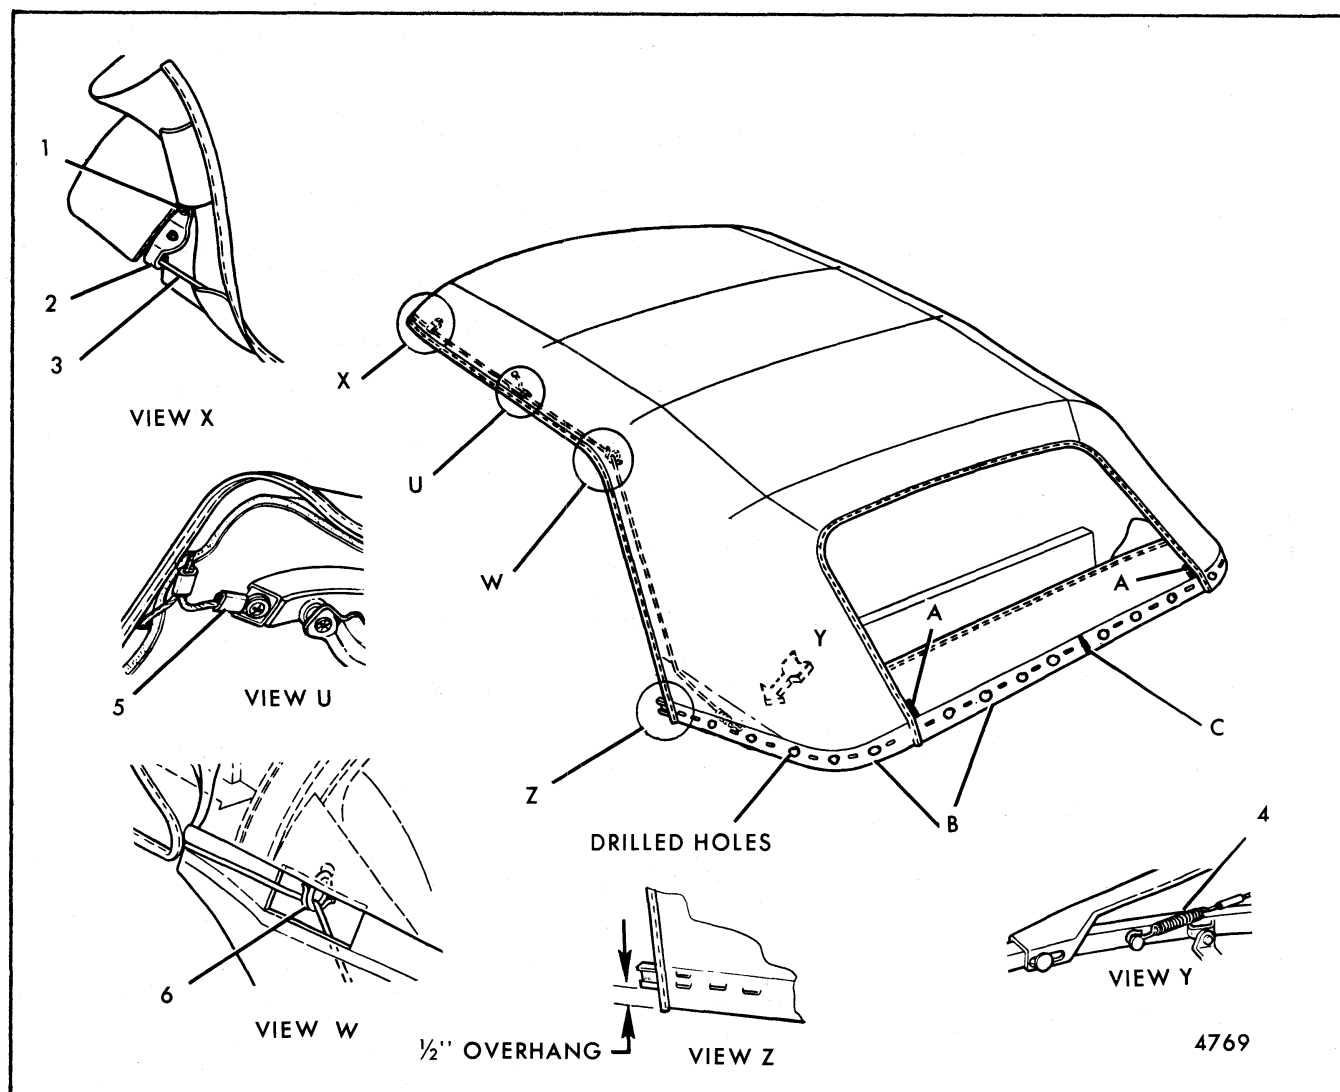
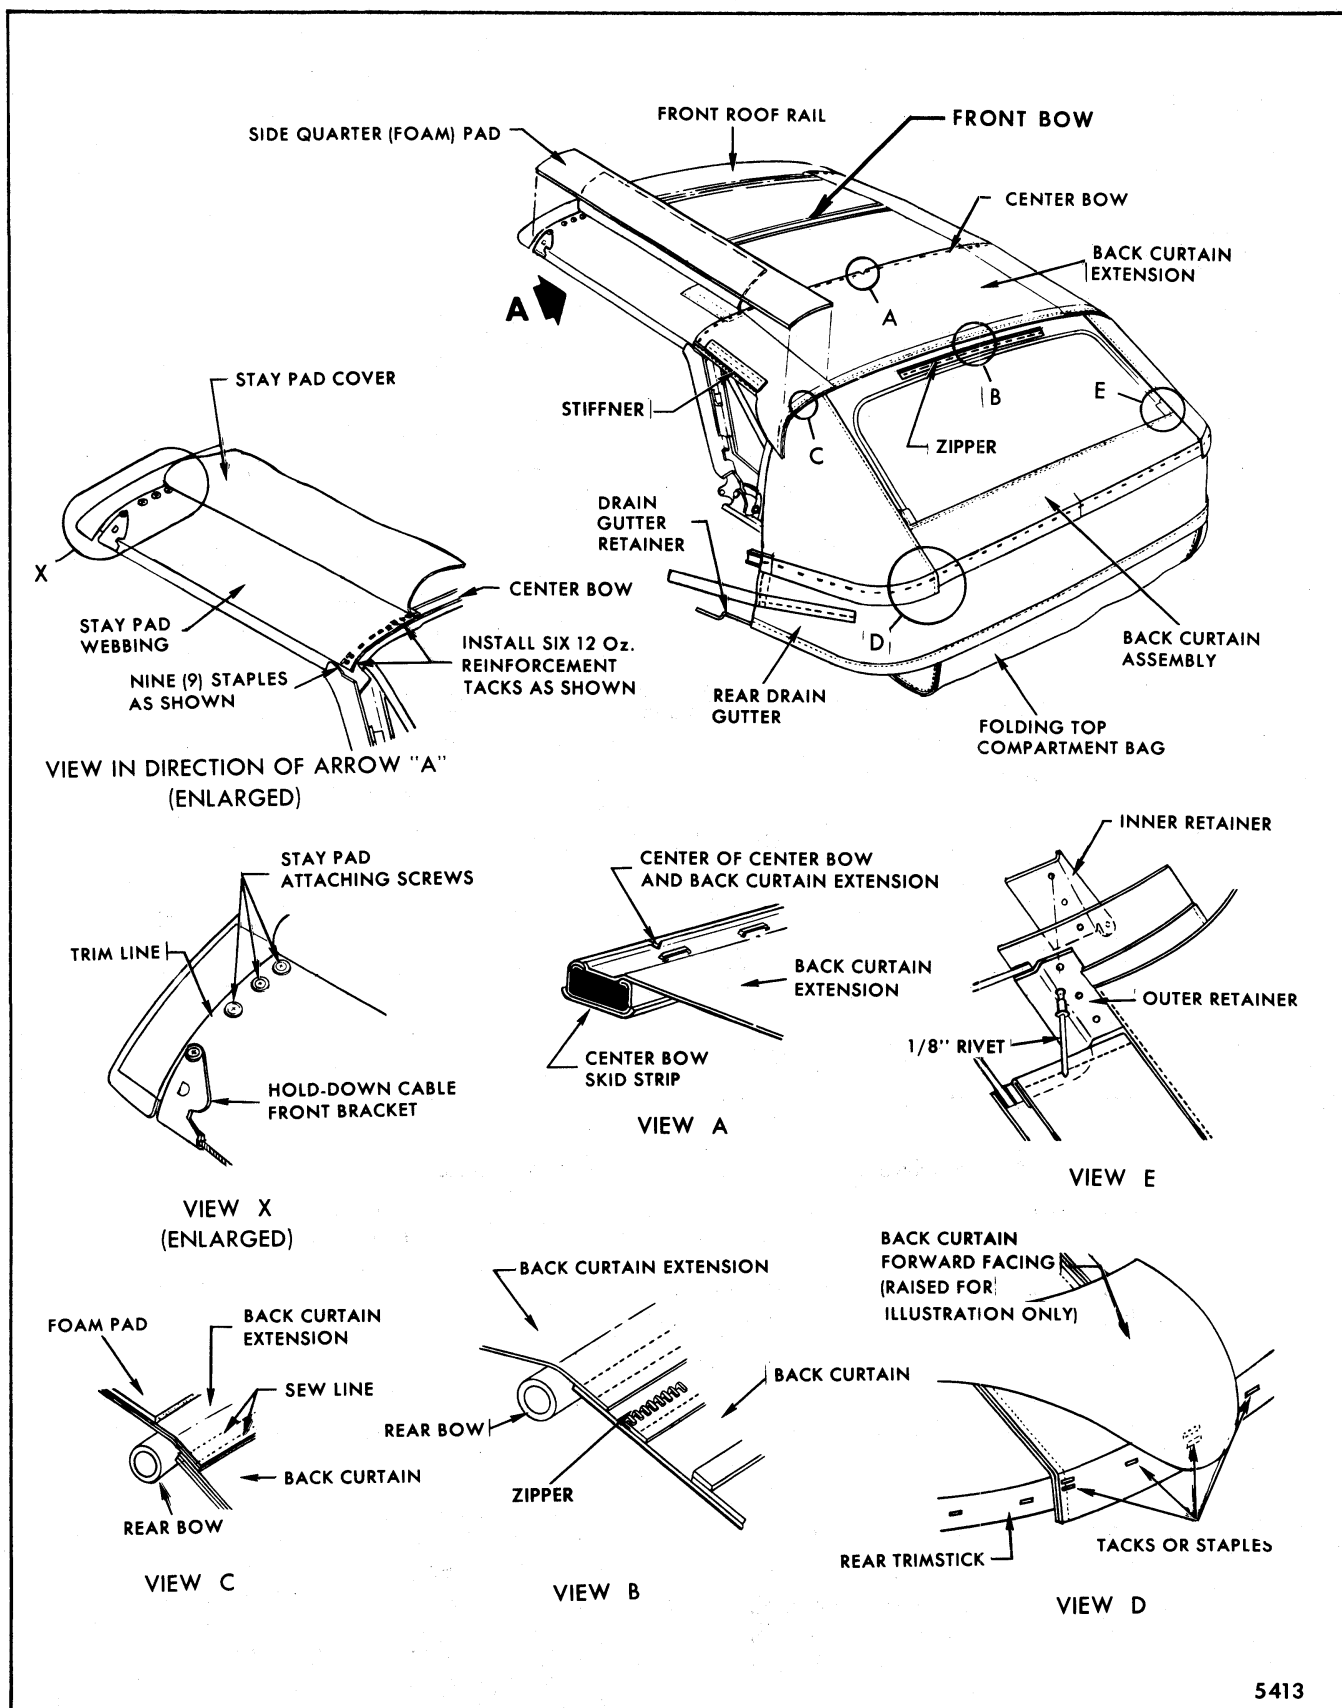
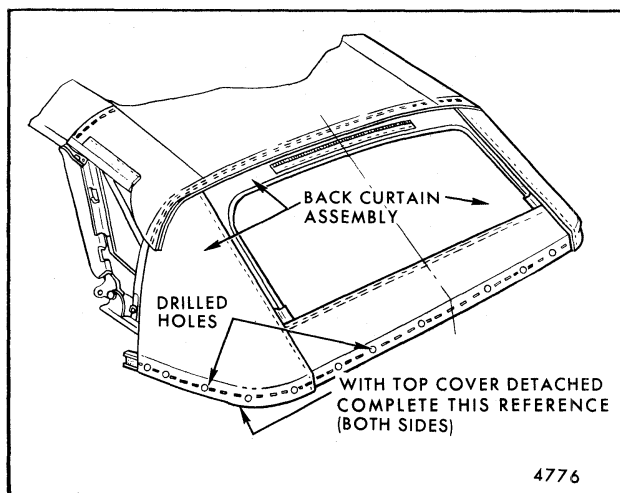

Fig. 8-85-Hold-Down Cable Attachment and Convertible Top Reference Marking
Fig. 8-86-Back Curtain Assembly Attachment and Reference Marking
Fig. 8-91-Completing Reference Marking on Back Curtain
- d. With top a short distance above windshield header, remove attaching screws, loosen metal tabs and detach hold-down cables at front (Fig. 8-85).
and side roof rail rear (View "U" and "W", Fig. 8-85).
- a. Vertical edge references of top cover on back curtain at trimstick (Item "A", Fig. 8-85).
- b. Mark bottom of trimstick reference on top cover and back curtain in window opening (Item "B", Fig. 8-85).
- c. Center mark on trimstick and on back curtain (Item "C", Fig. 8-85).
- d. Reference mark at two inch intervals along centerline of trimstick on top cover and back curtain (Figs. 8-85 and 8-91). Remove staple or tack which may be at reference location.
8. With staple removing tool, such as narrow screwdriver, detach both sides of top cover from trimstick. Pull top cover upward and complete marking lower edge reference of trimstick on back curtain (Fig. 8-91).
9. Pull top cover upward and detach hold-down cable rear spring from each side of trimstick (View "Y", Fig. 8-85).
- a. Detach side quarter foam pad from back curtain extension up to center bow (Fig. 8-86). If pad(s) are damaged during removal, they should be replaced with equivalent soft, foam rubber material. Use sharp blade, like razor, and carefully cut cemented bond while gently lifting foam pad.
center roof bow (View "A", Fig. 8-86).
- c. Detach back curtain from rear trimstick. Note how folded material is secured below back window sides (View "D", Fig. 8-86).
1. Since original top cover and back curtain are being replaced, transfer reference marking from original back curtain and top cover to replacement parts as follows (Figs. 8-85 and 8-91):
- a. Using scissors or equivalent sharp cutting tool, remove excess overhang material from top cover and back curtain at reference "B", Figure 8-85.
- c. With back window openings in alignment, accurately transfer trimstick reference to bottom of new back curtain by following along lower cut valance of original back curtain. Use a suitably pointed and legible marking pencil or tailor's chalk (Item "B", Fig. 8-85 and Fig. 8-91).
- d. Transfer center reference mark from original back curtain to new curtain at front (on extension, View "A", Fig. 8-86) and at rear (on valance, Item "C", Fig. 8-85).
- e. Transfer top cover vertical edge reference from original back curtain to new curtain (Item "A", Fig. 8-85).
stick references, right and left, to bottom of new top cover by marking along cut rear edges (Item "B", Fig. 8-85).
- a. Position center of new back curtain extension on center of center bow. Front edge of extension should be flush with front rib of center bow. Staple or tack extension to center bow. Start at center, keep trim material flat, and space tacks or staples about two inches apart (View "A", Fig. 8-86).
- d. Fold back each side of curtain, shown in View "D", Figure 8-86, and install three staples or tacks at this location.
- e. Space staples or tacks about two inches apart (about 40 tacks or staples). Avoid excessive stretching of material (Fig. 8-86).
- f. Allow 1/2 inch of back curtain to overhang rear trimstick. Using scissors, cut off excess material beyond 1/2 inch overhang (View "Z", Fig. 8-85).
3. Cement original or replacement side quarter (foam) pad (Fig. 8-86) between center bow and rear bow on each side. If pad(s) from center to rear bow were damaged upon removal, replace them with equivalent foam rubber material.
6. Insert hold-down cables in top cover. Use a length of welding rod to facilitate insertion (Fig. 8-85).
9. Attach hold-down cable rear spring to each side of trimstick (View "Y", Fig. 8-85).
- a. Align top cover at rear vertical reference marks and at trimstick horizontal reference (Items "A" and "B", Fig. 8-85). Also align punched holes in top cover with holes in back curtain and trimstick. With helper holding trim in aligned position, double tack or staple at this position using 12 ounce tacks or staples or equivalent.